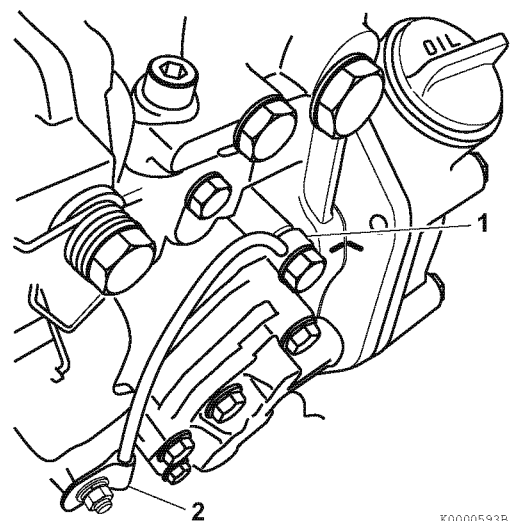

Figure 7-12
14. Disconnect the lube oil line (1, **Figure 7-12**) and the clamp (2, **Figure 7-12**) from the pump.